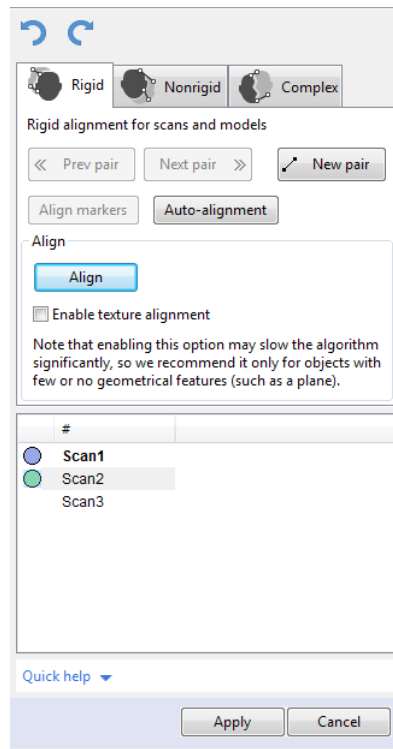

Figure 71: *Align* panel: *Rigid* tab.
1. Make sure the *Rigid* tab is selected in the *Align* panel (see Figure 71). The tool will automatically select all scans. Clear unnecessary selections by using the `Ctrl` key (see *Scan Alignment*).
1. Make sure the *Rigid* tab is selected (see *Figure 71*).
1. Make sure the *Rigid* tab is selected (see Figure 71).